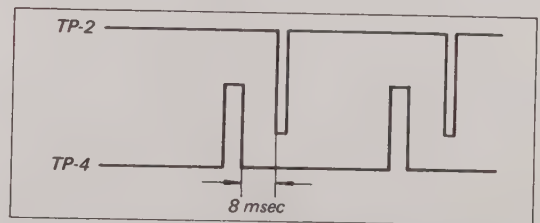

Fig. 7-8. Second tracking range adjustment (Tracking control fully counterclockwise)
8. Adjust R17 for 8 msec between the trailing edge (negative-going) of the signal at TP-4 and the leading edge of the CTL signal at TP-2. See Fig. 7-8.